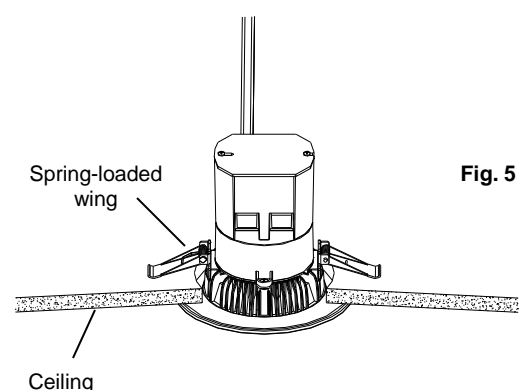

Fig. 5
9. Continue inserting the EasyUp™ trim into the hole, while continuing to squeeze the spring-loaded wings. When the wings reach the hole edge, release them and push up the EasyUp™ trim until both wings flip down onto the ceiling surface. (Fig. 5) The decorative ring of the EasyUp™ trim should be flush against the ceiling surface.